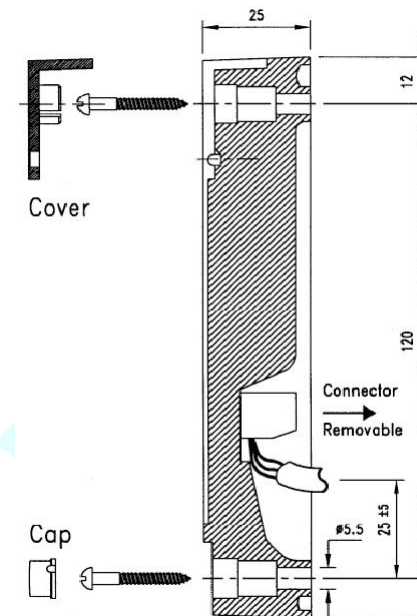

Figure 1 Mullion Mounting
1. Drill two holes for mounting the reader (see Figure 1 Mullion Mounting, page 7). Do not mount readers less than 20 cm (7.87 in) from each other. Make sure that enough room to connect the cable is allowed. Protect the cable against sharp edges and any damage from chaffing.